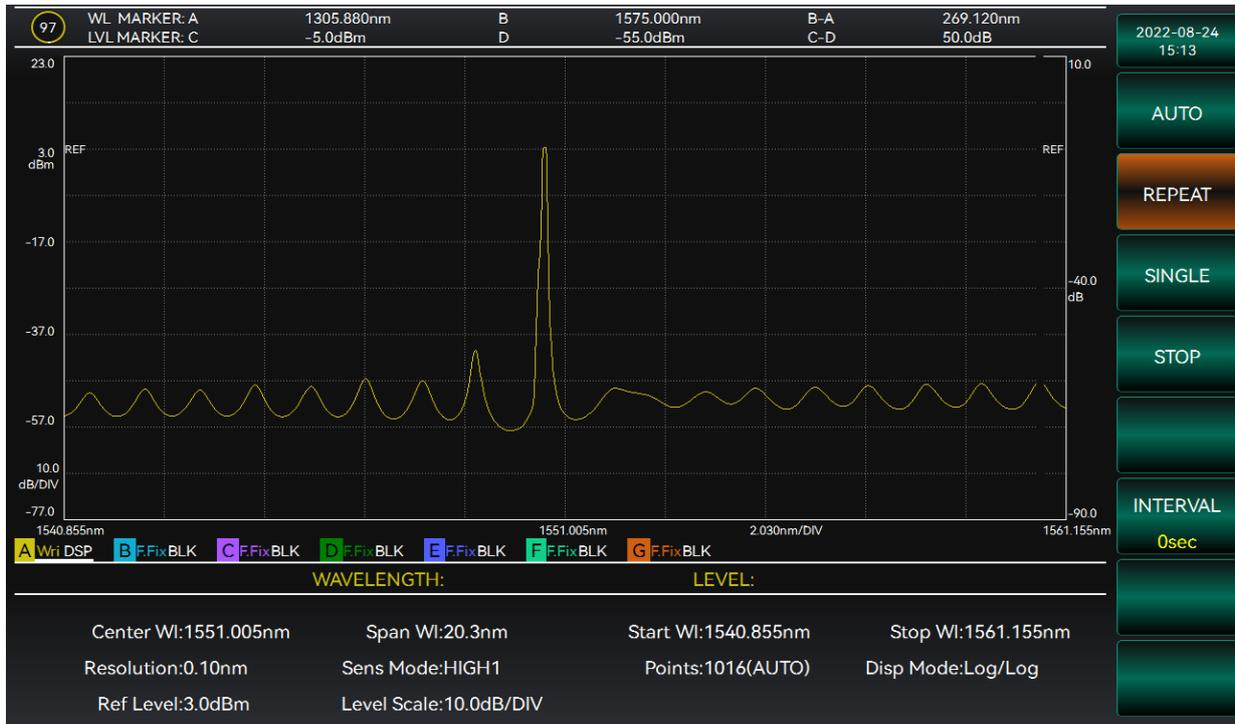

Figure 3-10 Repeated sweep result diagram
2. Select [Rept Swp] to start sweeping. The sweep is completed as shown in Figure 3-10.